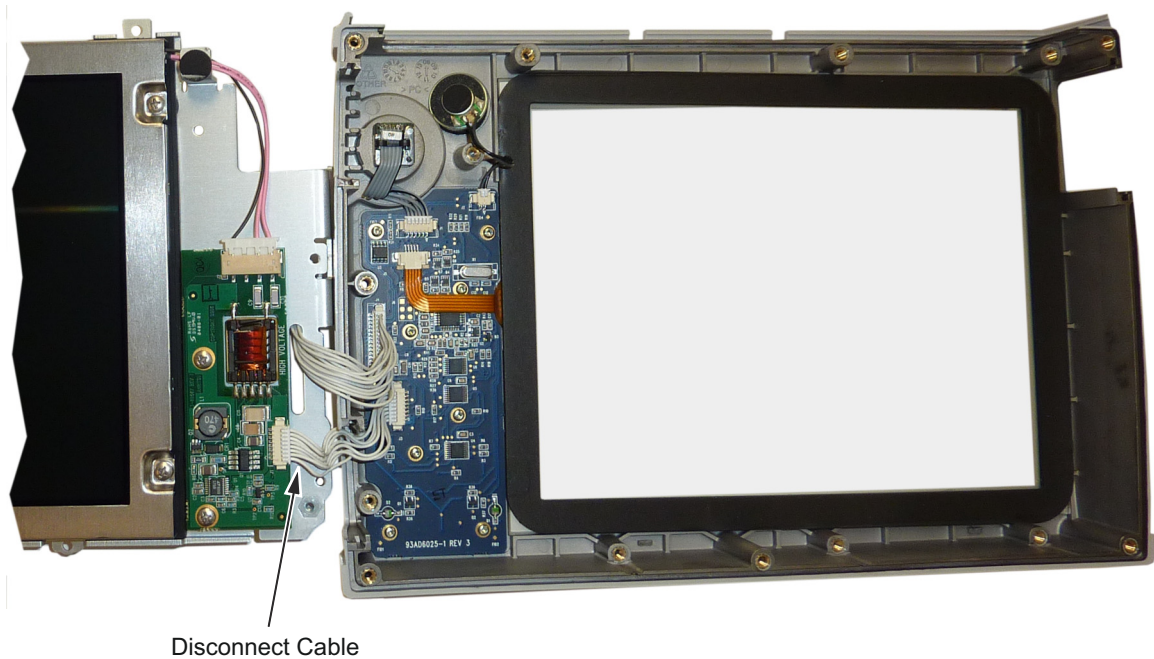

Figure 7-11. Replacing the LCD Assembly
4. Turn the LCD assembly over and disconnect the front half of the case from the LCD Assembly (Figure 7-11).